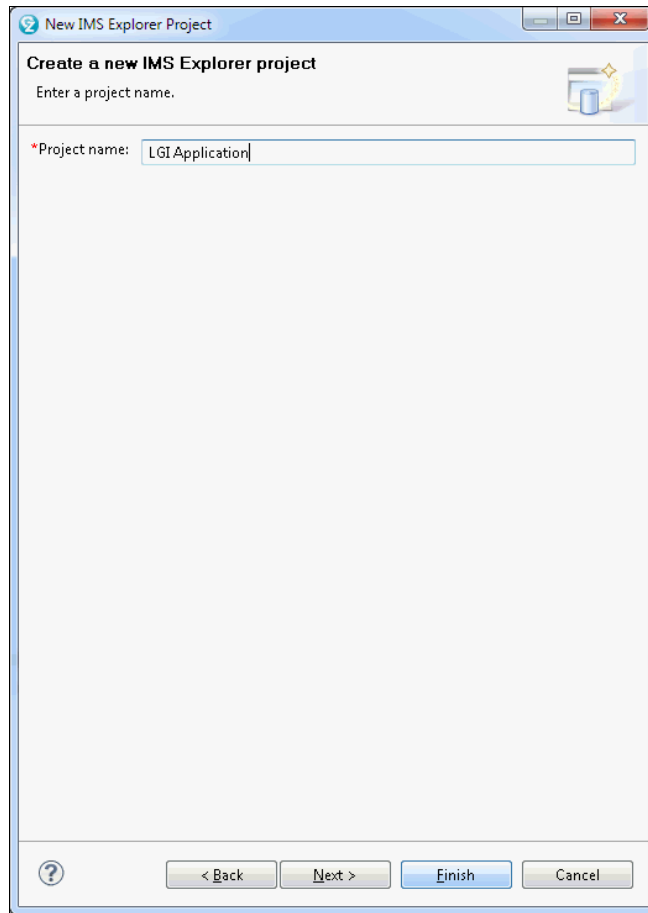

Figure 8-17 Name the IMS Explorer Project
4. Enter a name for the IMS Explorer Project, as shown in Figure 8-17.